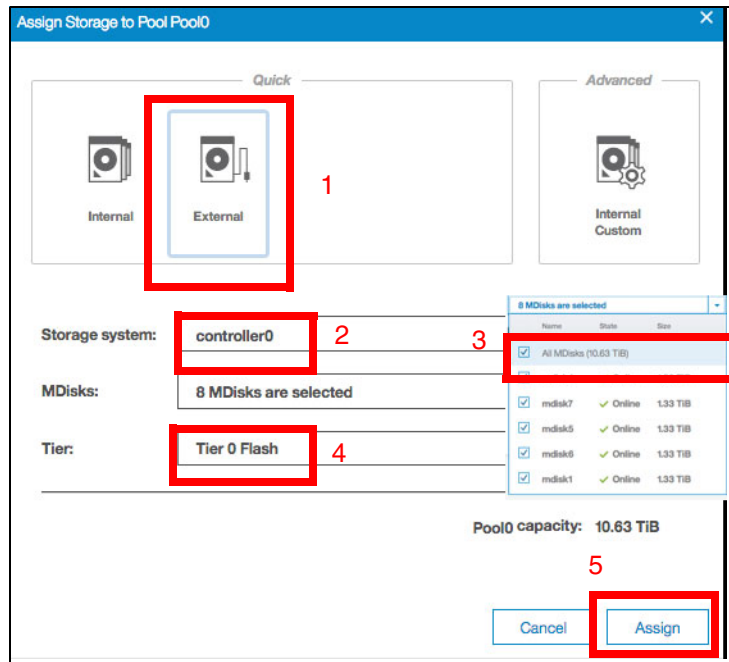

Figure 8-11 Adding storage to the pool
Make the following selections from the add storage to pool window that is shown in Figure 8-11:
The Storage Subsystem that contains the MDisks is discovered (see 2 in Figure 8-11).
2. Select all MDisks in this example (the eight MDisks are from the FlashSystem). The menu appears when you select the field (see 3 in Figure 8-11).
This tier is Tier 0 Flash, which classifies it for Easy Tier (see 2 in Figure 8-11).